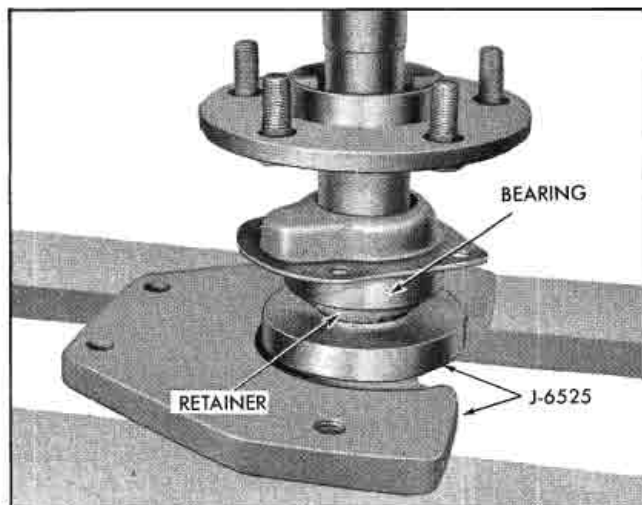

Fig. 4-17 Installing Bearing on Axle Shaft
b. If removed, install bearing outer retainer on shaft. Install bearing on shaft using tool J-947-P to bear only on inner race and press bearing firmly against shoulder on shaft (Fig. 4-17).